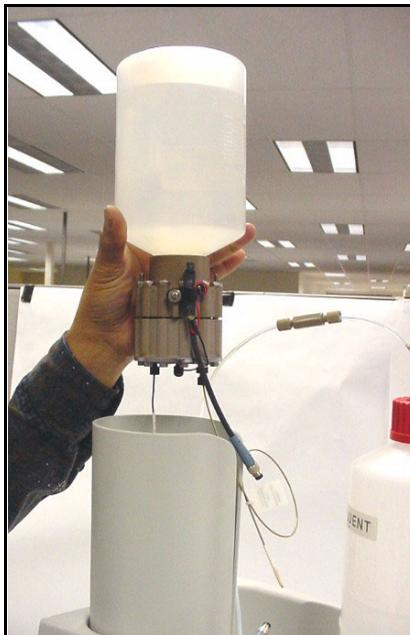

Figure B-39. Installing the EGC in the Holder
- Slide the EGC down into the holder until it stops. Make sure the cable and restrictor coil remain out of the holder (see Figure B-39).